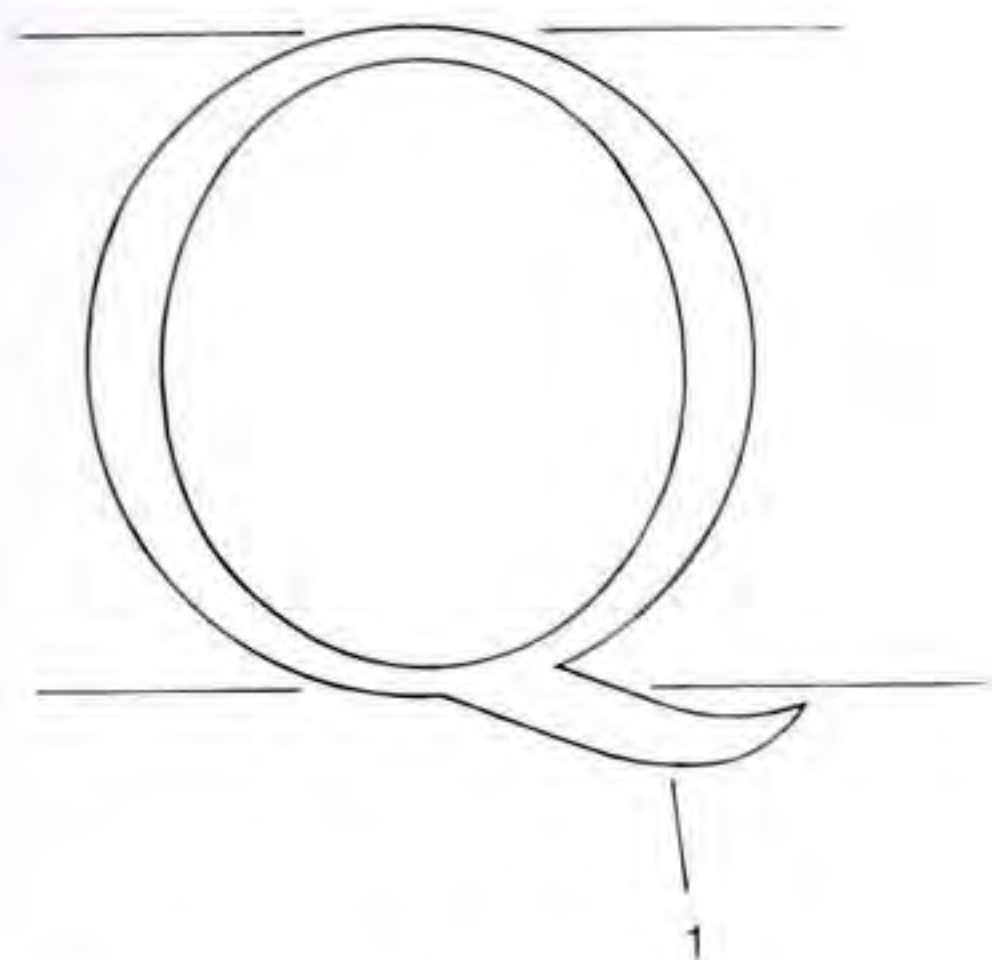

Fig 6.18 Features of the letter *Q*.
See Fig 6.18. This is essentially **O** with a tail. The tail is a strong, graceful wide stroke of variable length (1). It should not intrude into the circle itself – this would tend to close down the letter. The tail should be started about one unit to the right of the point where the main circle meets the base line. It then descends at an angle of about 25° to the base line, straight, with a curve on the end, rather like the leg of **K** and **R**. Avoid a 'wavy' tail.